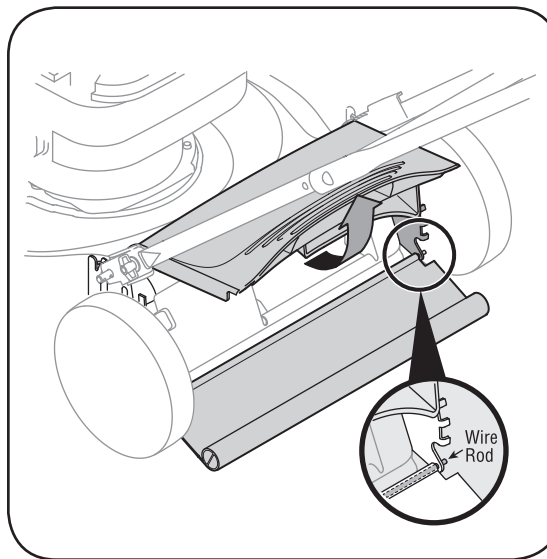

Figure 5-3: Cut wire rod to remove the rear flap.
1. To remove rear flap, cut off the flat end of the wire rod which secures it to the deck, Figure 5-3.